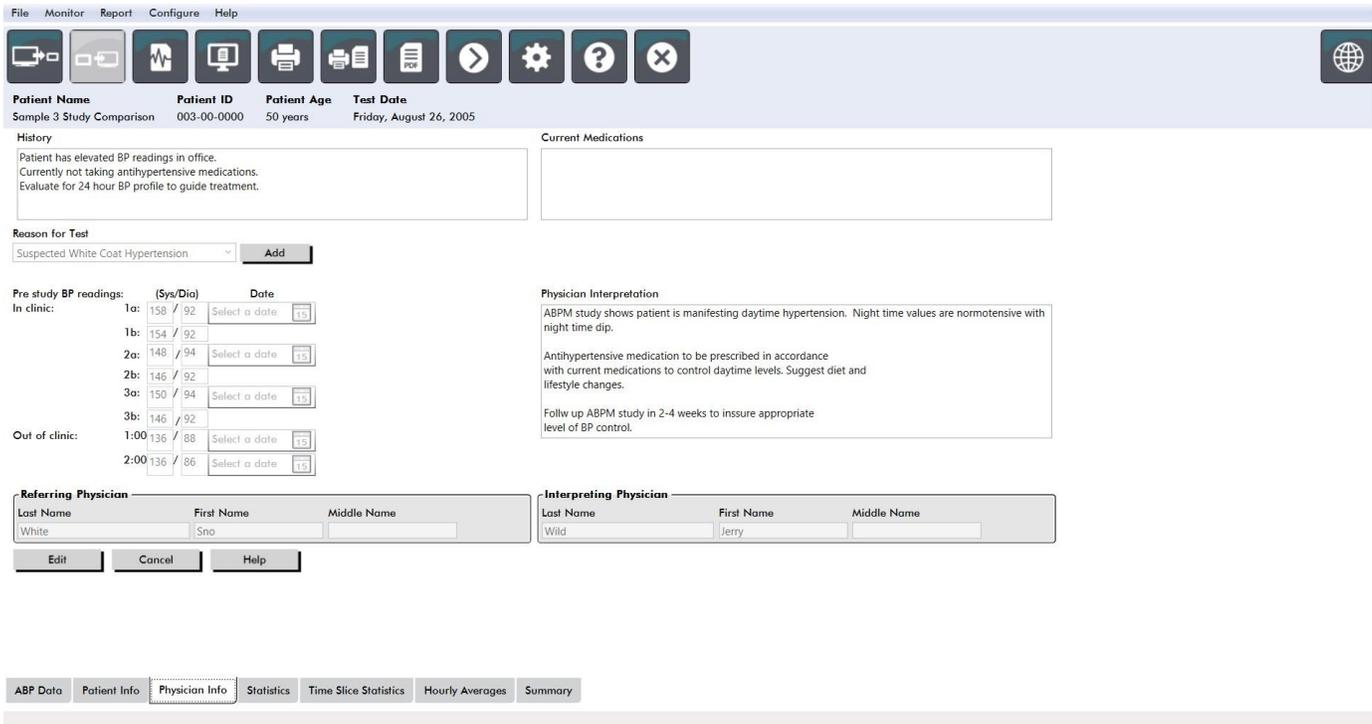

Figure 19: Physician Info Tab
3. Choose **Delete**. Click **Yes** to delete the time-slice (Figure 19).